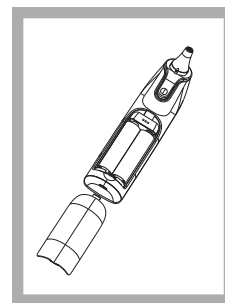

Figure 12
- Remove battery and install 2 new AAA alkaline batteries as shown in Figure 12.